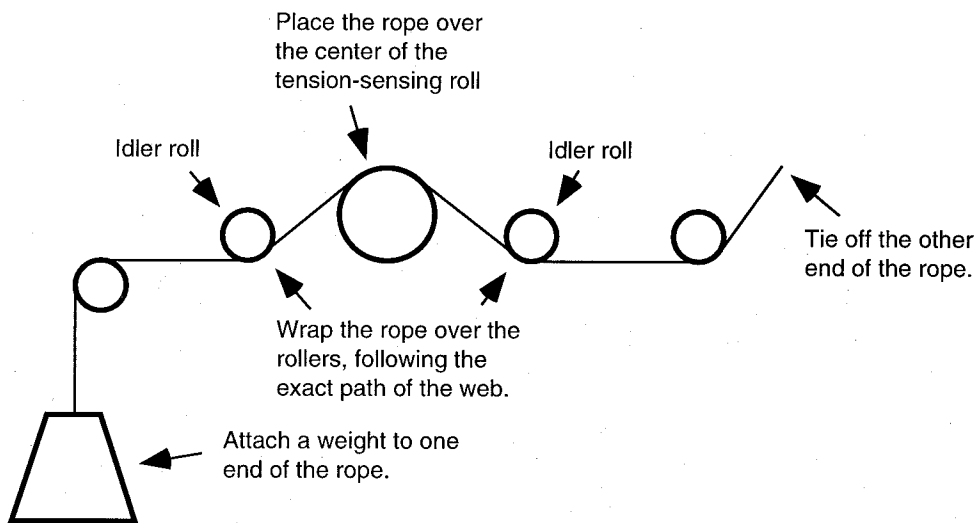

Figure 6 - Rigging Calibration Weight
- Hang the test weight from the sensor roll. Thread a length of rope over the center of the roll. Be sure to follow the exact path of the web. The rope must extend from the roll **before** the sensing roll to the roll **after** it. See Fig. 6.